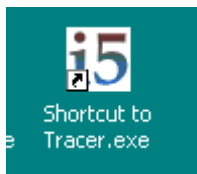
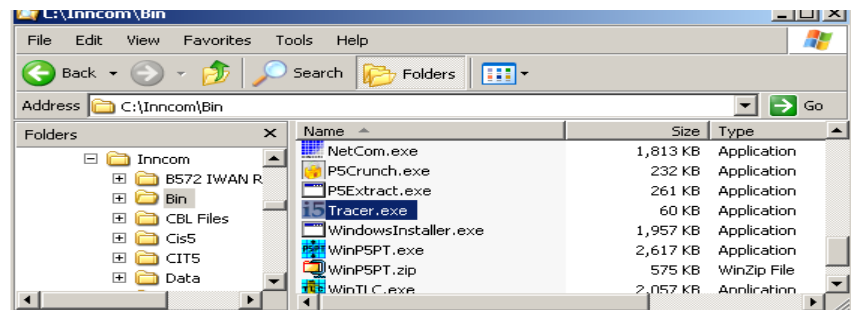

Figure 4 Tracer.exe shortcut
Figure 5 Tracer.exe Location
6. If the correct serial cable has already been connected, use the **Tracer.exe** program to monitor serial traffic between the Inncom server and the PMS server; verify that PMS commands are correctly being sent by the PMS server and are being accepted by the Inncom server. **Tracer.exe** should be located in the *C:\Inncom\Bin* folder. A desktop shortcut may already have been created for **Tracer** (Figure 4); double-click it to start the program. Otherwise, browse to the *C:\Inncom\Bin* folder (Figure 5) and double-click on **Tracer.exe**.